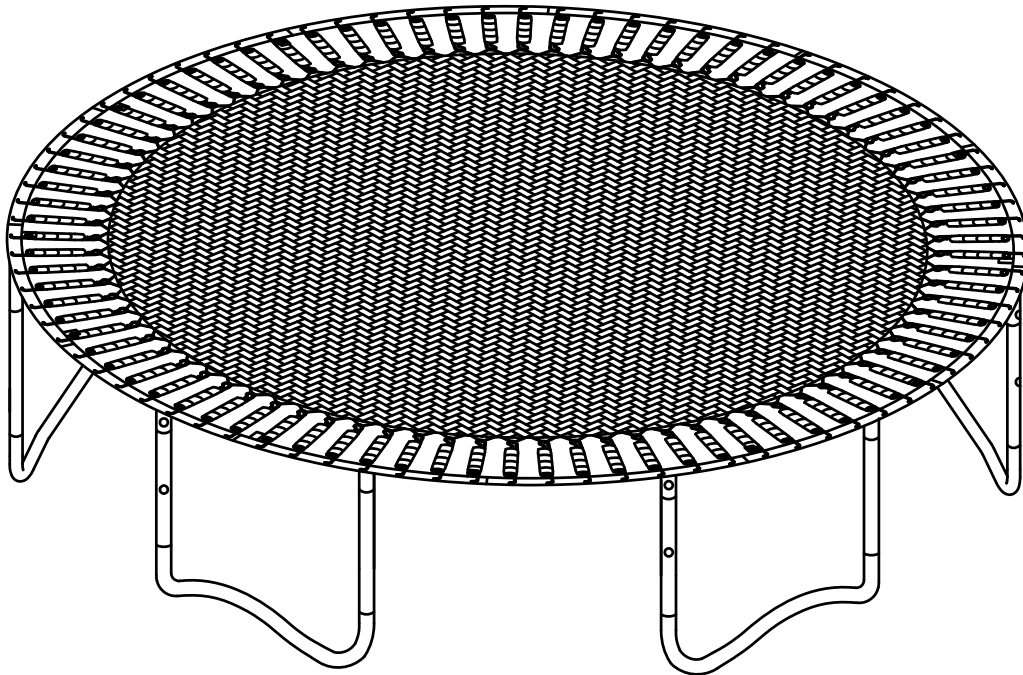

FIGURE 11
- G. Then, attach the remaining 64 springs by using the same theory of counting equal holes as shown in FIGURE 11.